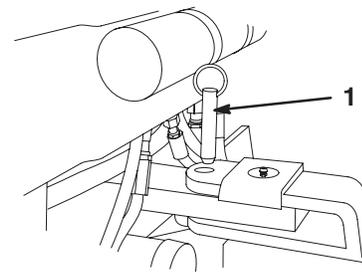

Figure 22
3. Secure the boom using the two pins removed prior to operation (Figs. 22 and 23).